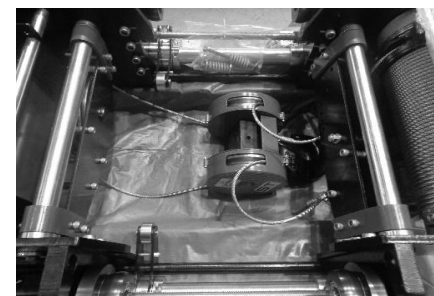

Figure 6.0.1
- These requirements are indicated on the box sides by relevant signs (See Figure 6.0.1).